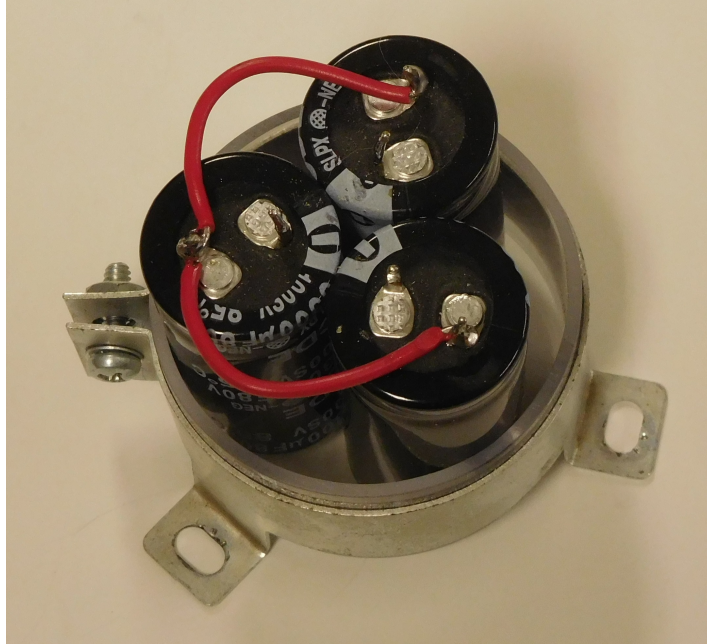

Figure 6-Connecting the positive terminals together
4. Cut two 2” lengths of the supplied 18 or 20 AWG red wire. Remove 3/8” of insulation from the ends. Connect together the positive capacitor terminals as shown in Figure 6